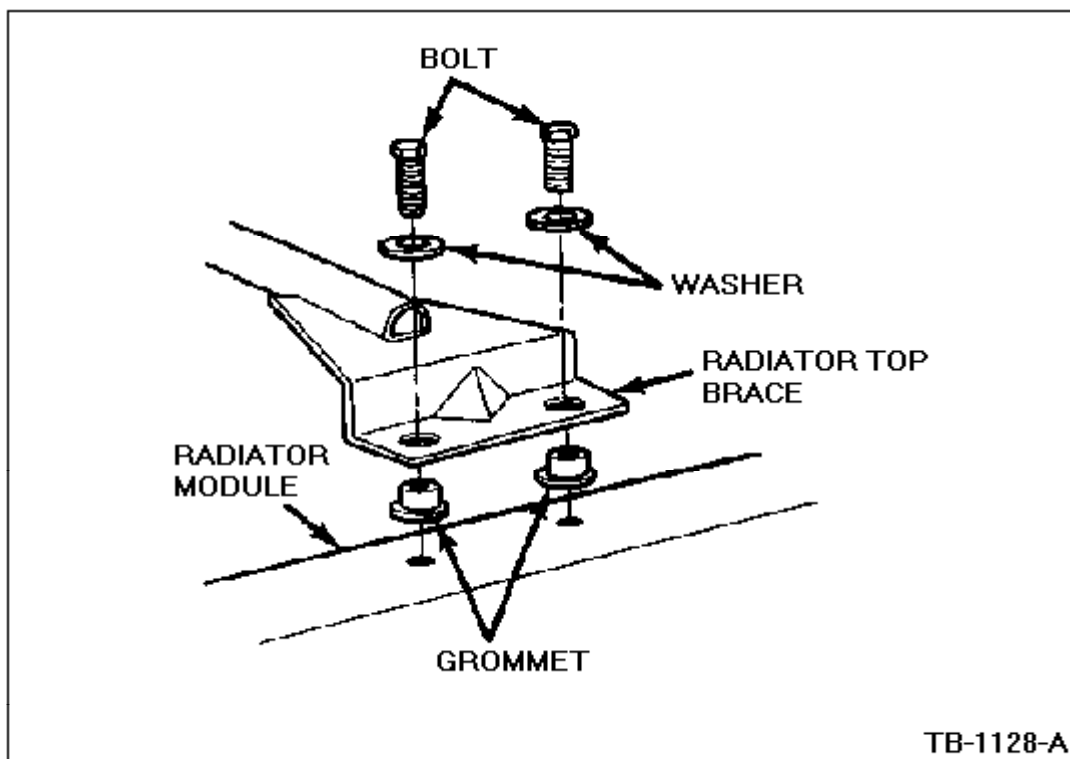

Figure 1 - Article 89-11-13
1. Inspect the bolts that hold the radiator brace to the radiator, Figure 1.
4. Inspect the grommets, Figure 1.